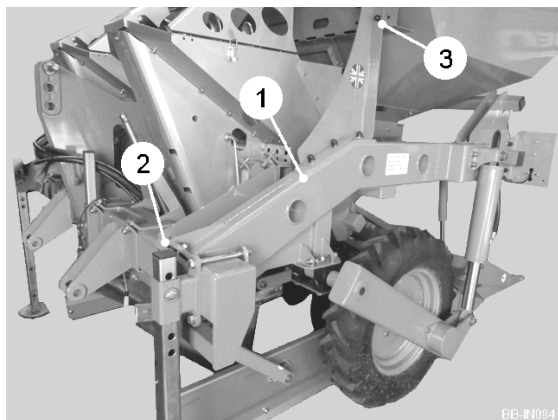

Fig. 2
The land wheels must be set to straddle the rows. The LH and RH side frames units (item 1, fig. 2) are adjustable to allow the wheels to be set between 1.52m (60") and 1.83m (72").
1. Loosen the side frame clamp bolts x4 (item 2, fig. 2) and the hopper front mounting bolts x2 (item 3, fig. 2).
3. Slide the side frame unit (item 1, fig. 2) along the front beam to the required setting ensuring it is adjusted equally about the centre-line of the machine.